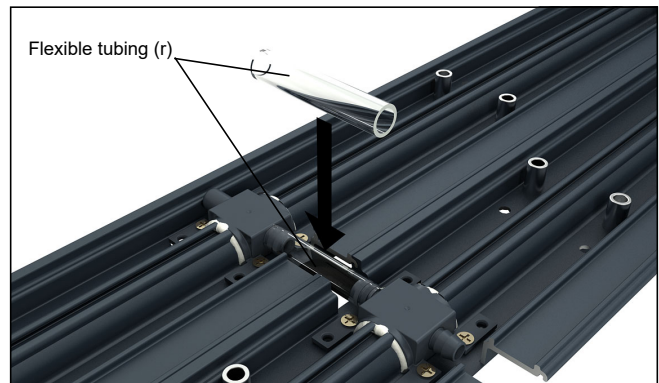

Figure 5
5. Turn the sill over to access the sill drainage system. Install supplied 3/8" flexible tubing between the lower drainage system sections (do not install drainage outlets at this time). See figure 5.